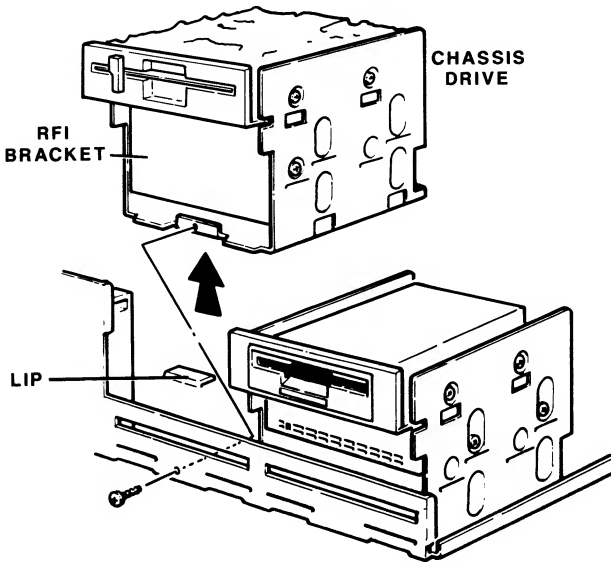

Figure 5-20. Removing the Drive Chassis
3. Remove the screw from the front of the computer that holds the drive chassis in place, as shown in Figure 5-20.